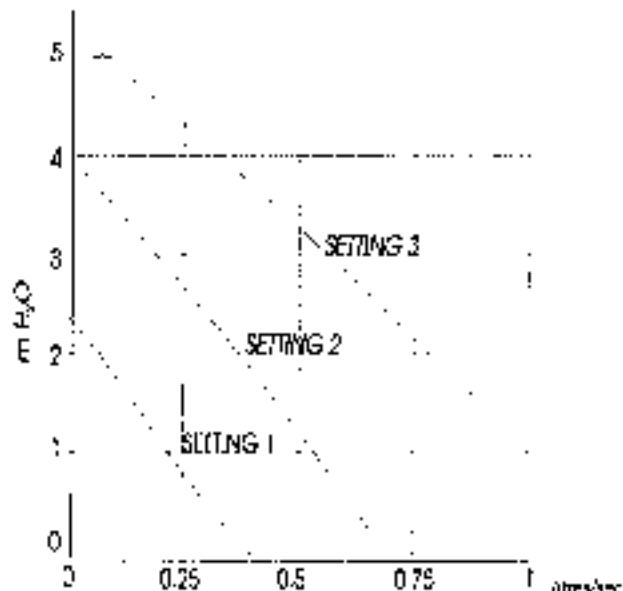

Figure 2.6 Performance Characteristics of Grundfos UPS 15-Su Pump
A schematic layout of the heating system in a typical small dwelling is shown in Figure 2.6.
7. The performance characteristics of the system pumps is given in Figures 2.6 and 2.6a.